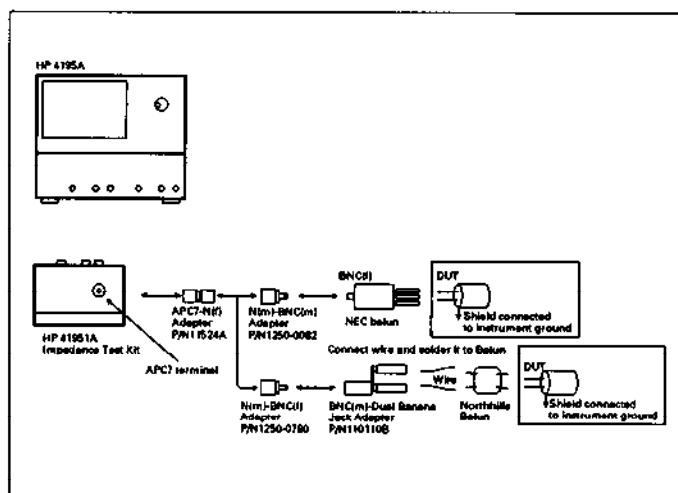

Figure 6. Measurement Configuration (2)
Figure 6 shows impedance measurement configuration (2) with the HP4195A.